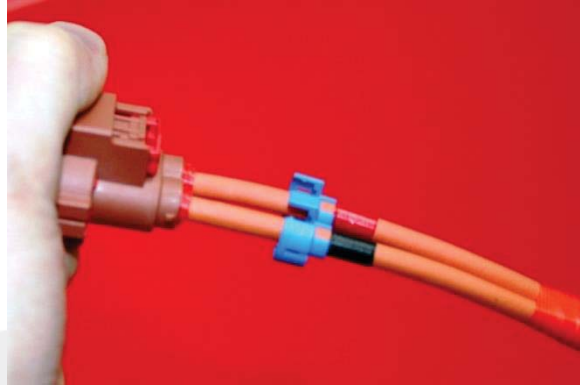

Figure 6
- Slide the holder away from the connector towards the color bands (Figure 6).